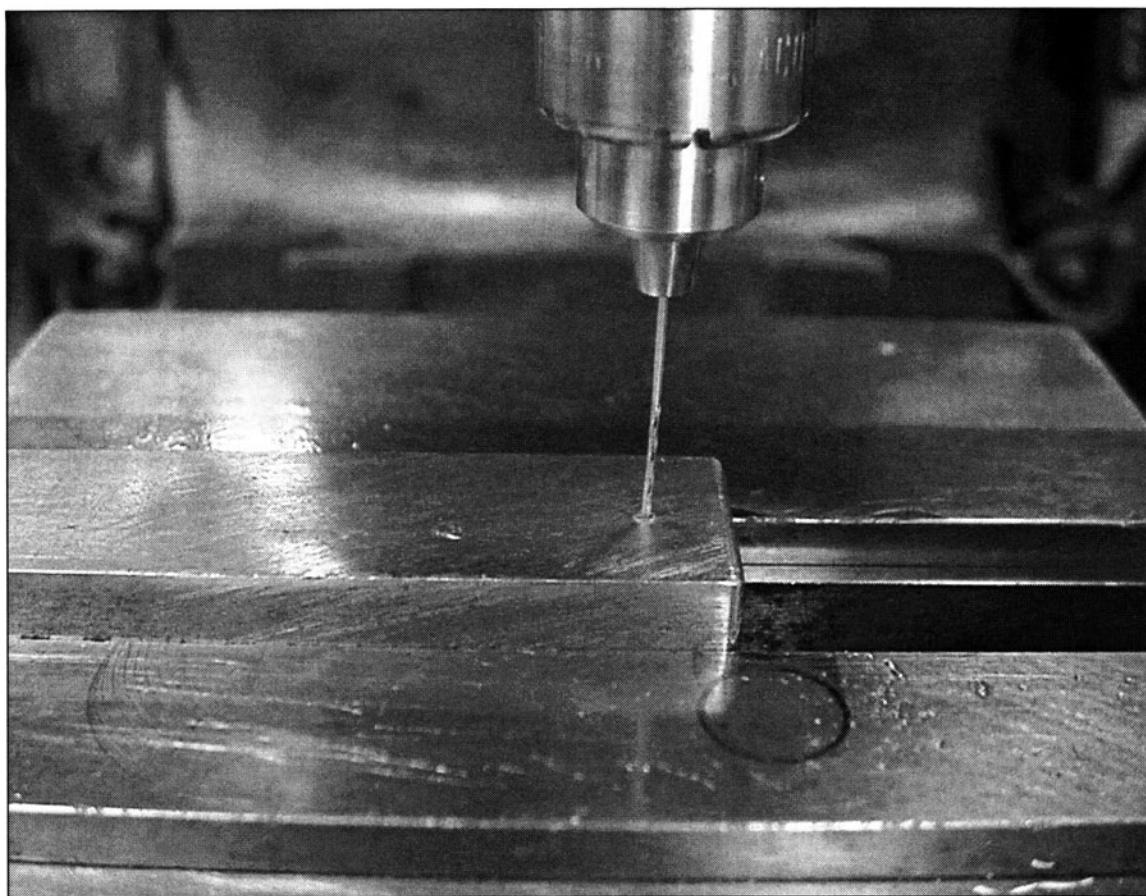

FIGURE 3-19 A small drill bit is used to line up a prick punch mark.
24. Use a small drill to pick up a punch mark. (See Fig. 3-19)